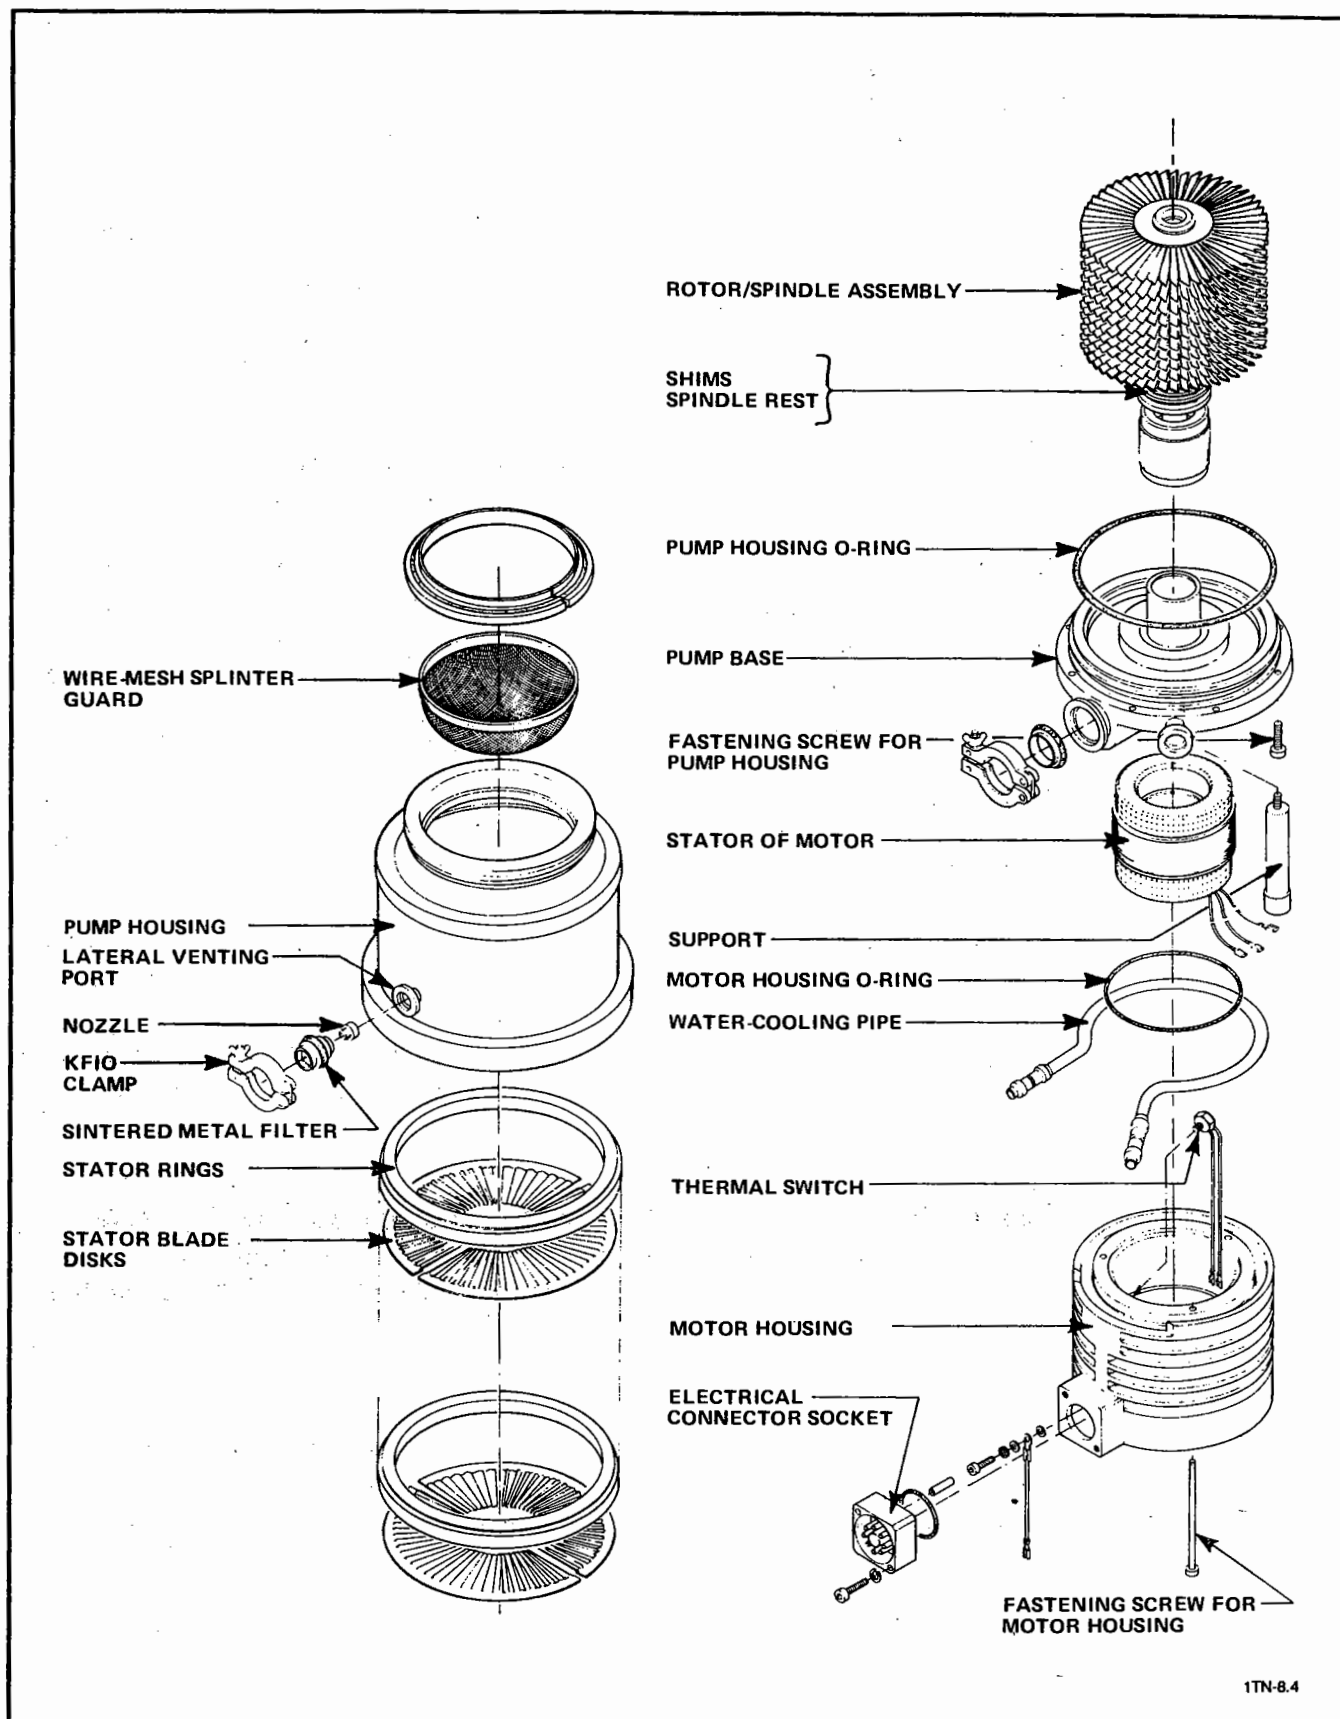

Figure 4-2. TMP1000 Exploded View
Figure 4-2 shows an exploded view of the turbopump. Refer to this figure as necessary in the following sections.
4. Check the motor stator (see Figure 4-2) for any possible friction marks; remove any marks by slightly polishing them with Emery cloth (120 grain). Marks indicate insufficient radial play.